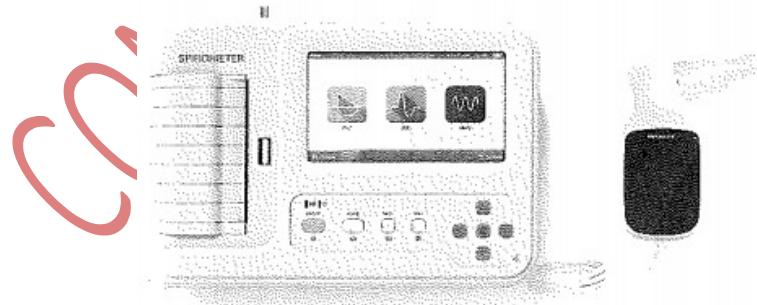

Figure 5-2
2. Attach the *mouthpiece* to the *turbine port* of the spirometer (PFT probe), as shown in Figure 5-2.